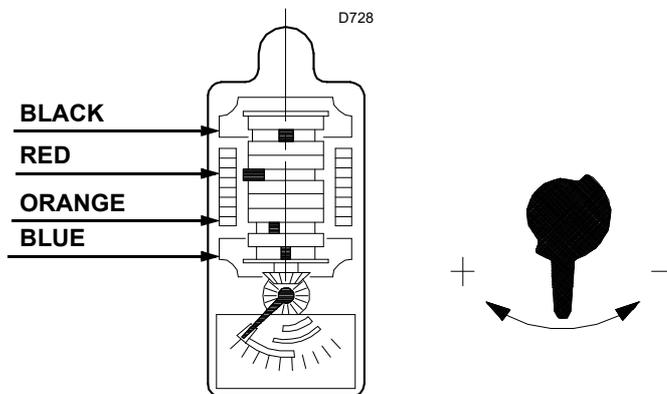

Fig. 30
- If it is necessary to decrease it, slightly decrease the angle of the orange lever (Fig. 30 on page 28) namely from angle 15° to 13° - 11°....
The servomotor (Fig. 30) adjusts the air damper.